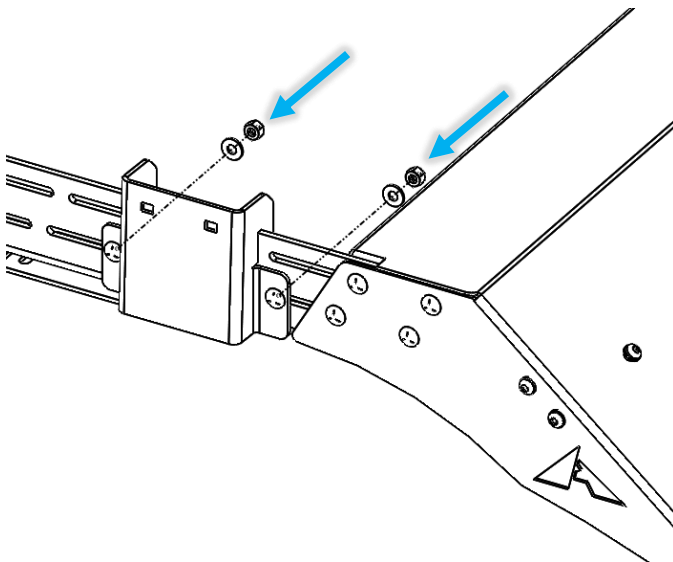

Figure 2: Awning Bracket Hardware Installation
3. Install provided carriage bolts through the awning bracket and the side rail of the roof rack (Figure 2). Fasten with the accompanying washer and nylon-locking nuts. The hardware can be installed in either direction.